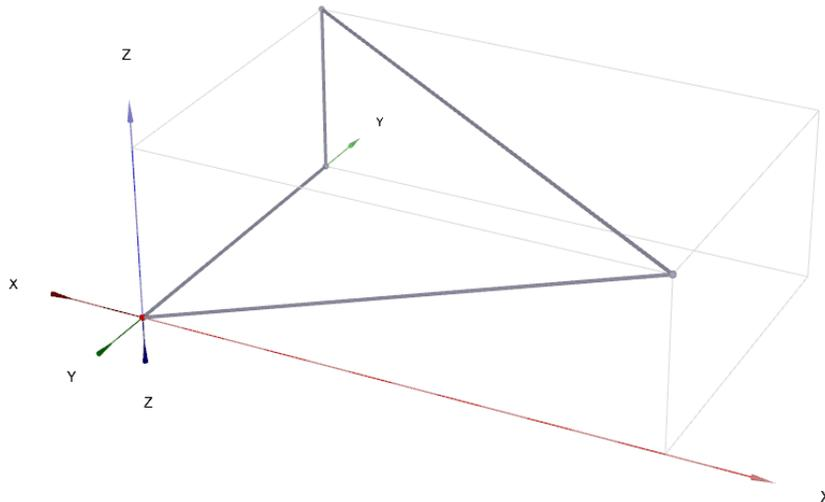

Figure 21: Resulting geometry of the illustration example
- Right-click to finalize the process. The resulting geometry is shown in Figure 21: Resulting geometry of the illustration example (on page 47).